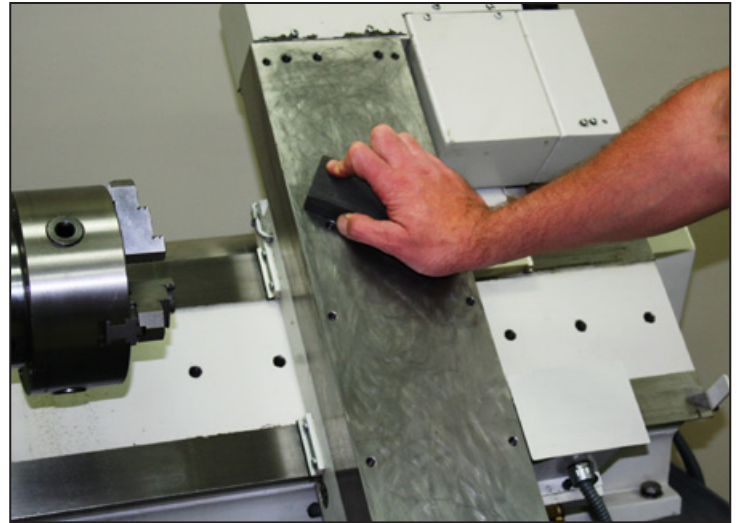

Figure 1
1. Use a machinist stone (or similar) to clean the lathe's slant bed (see **Figure 1**).